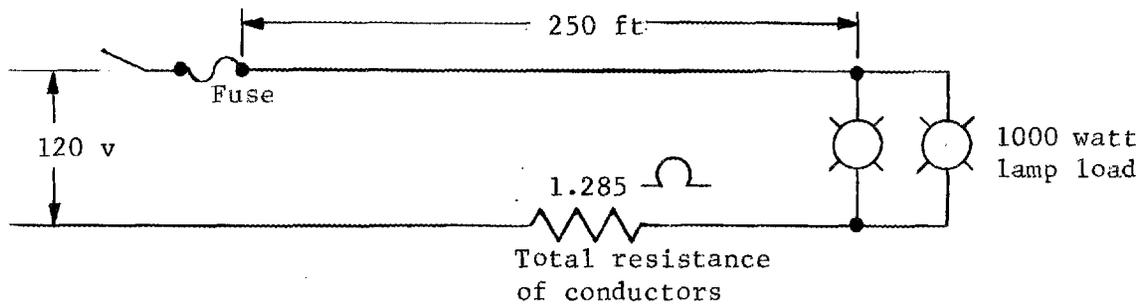

Fig. V-26. Resistance in Long Conductors
42. In Figure V-26 the 1000-watt-lamp load is located 250 feet from the power distribution panel. If #14 gage wire is installed, the 250-ft run would have a total resistance of 1.285 Ω (ohms). The current in the circuit will be $I = \frac{W}{E}$. If the lamps are rated for 110 v they would be expected to require _____ amps.
44. The voltage at the lamps, then, is supply voltage 11.68 v (120) - IR drop in the line = _____.
46. Extension cords frequently are made of #18 gage wire whose resistance is appreciably higher than that of the #14 gage just considered. Long extensions, if well loaded (7 to 10 amp), can introduce appreciable voltage losses and thus interfere with the operation of equipment being powered. If #18 wire had been used in Figure V-26, the same voltage loss would have occurred in slightly less than 100 ft of run.